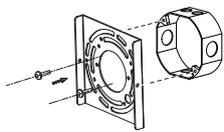

Fig 4
4. Fix the Mounting Plate on the J-Box. (Fig 4)